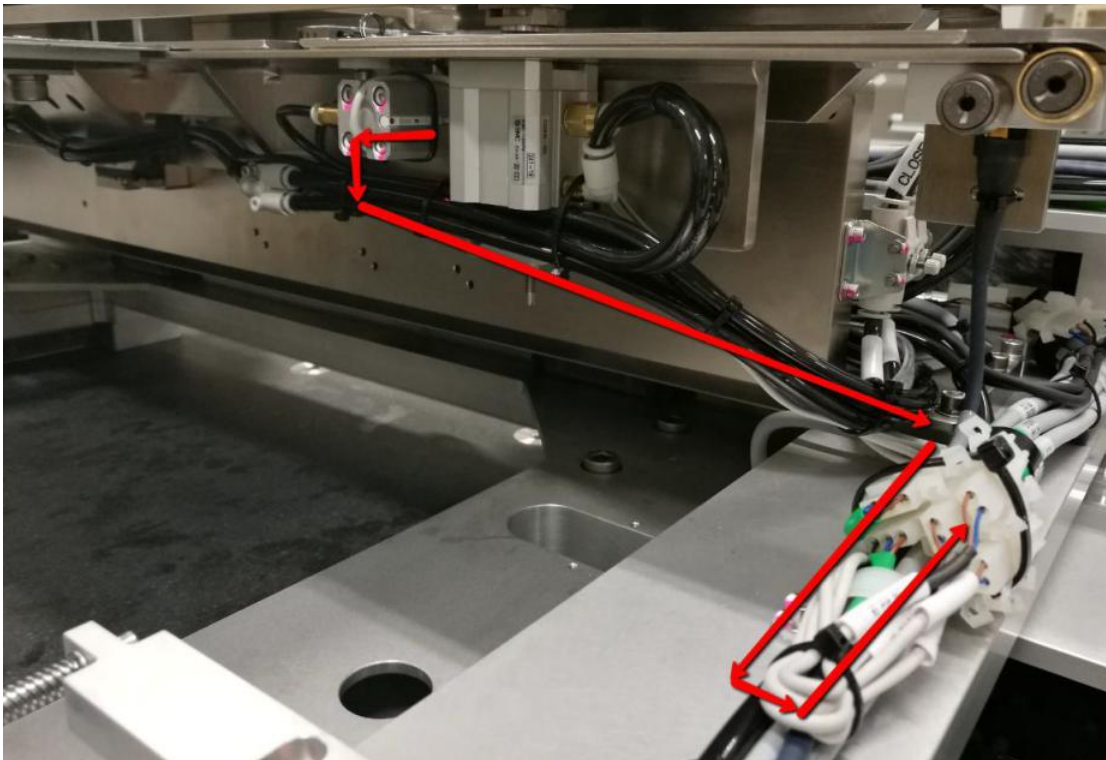

Figure 18 Left PIP Out Reed Sensor Removal
7. Remove defective Left PIP Out Reed sensor by following direction as shown in Figure 18 below.